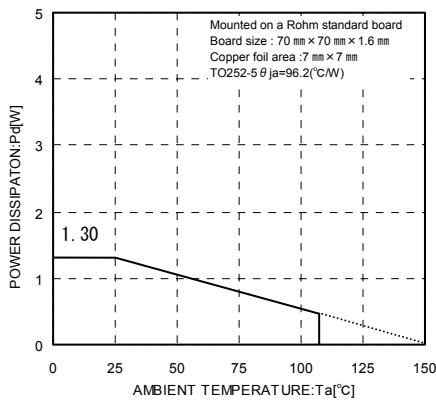
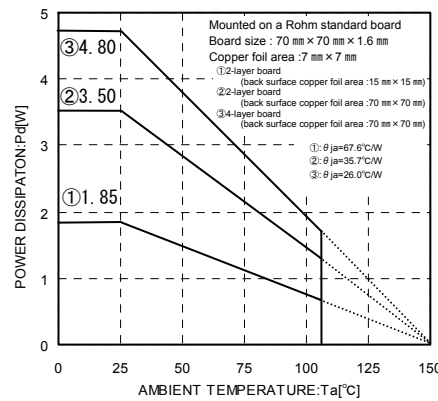

Fig.26
Fig.27(Reference data)
When using at temperatures over $T_a=25^\circ\text{C}$, please refer to the heat reducing characteristics shown in Fig.26 and Fig.27. The IC characteristics are closely related to the temperature at which the IC is used, so it is necessary to operate the IC at temperatures less than the maximum junction temperature $T_{j\text{max}}$.
Fig.26 and Fig.27 shows the acceptable loss and heat reducing characteristics of the TO252-5 package. Even when the ambient temperature T_a is a normal temperature (25°C), the chip (junction) temperature T_j may be quite high so please operate the IC at temperatures less than the acceptable loss P_d .
The calculation method for power consumption $P_c(\text{W})$ is as follows : (Fig.27③)
$$I_o \leq \frac{2.496 - 10 \times I_b}{5} \quad \left[\begin{array}{l} \text{Fig.27③: } \theta_{ja}=26.0^\circ\text{C/W} \rightarrow -38.4\text{mW}/^\circ\text{C} \\ 25^\circ\text{C}=4.80\text{W} \rightarrow 85^\circ\text{C}=2.496\text{W} \end{array} \right]$$